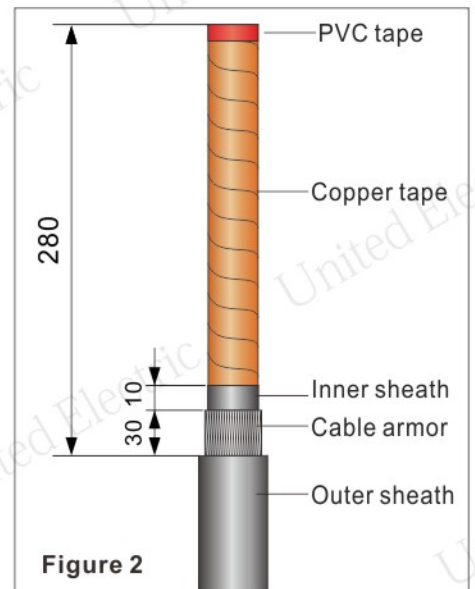

Figure 2
- Remove the cable outer sheath to 280mm, cable armor to 30mm, cable inner sheath to 10mm as shown in figure 2.